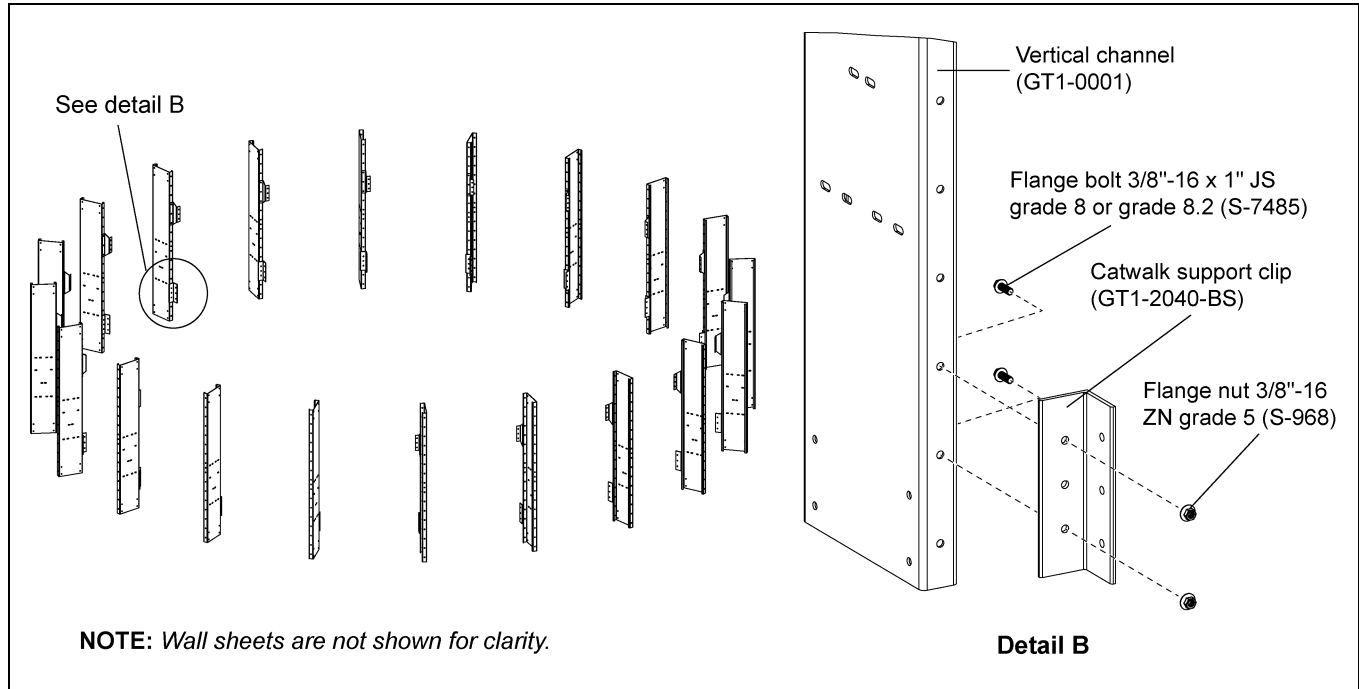

Figure 5B
1. Install catwalk support clips (GT1-2040-BS) to vertical channels (GT1-0001). Support clip can be installed on each vertical channel as the inner wall sheets are installed using 3/8"-16 x 1" JS grade 8 or grade 8.2 bolts (S-7485) and 3/8"-16 ZN grade 5 nut (S-968). (See Figure 5B.)